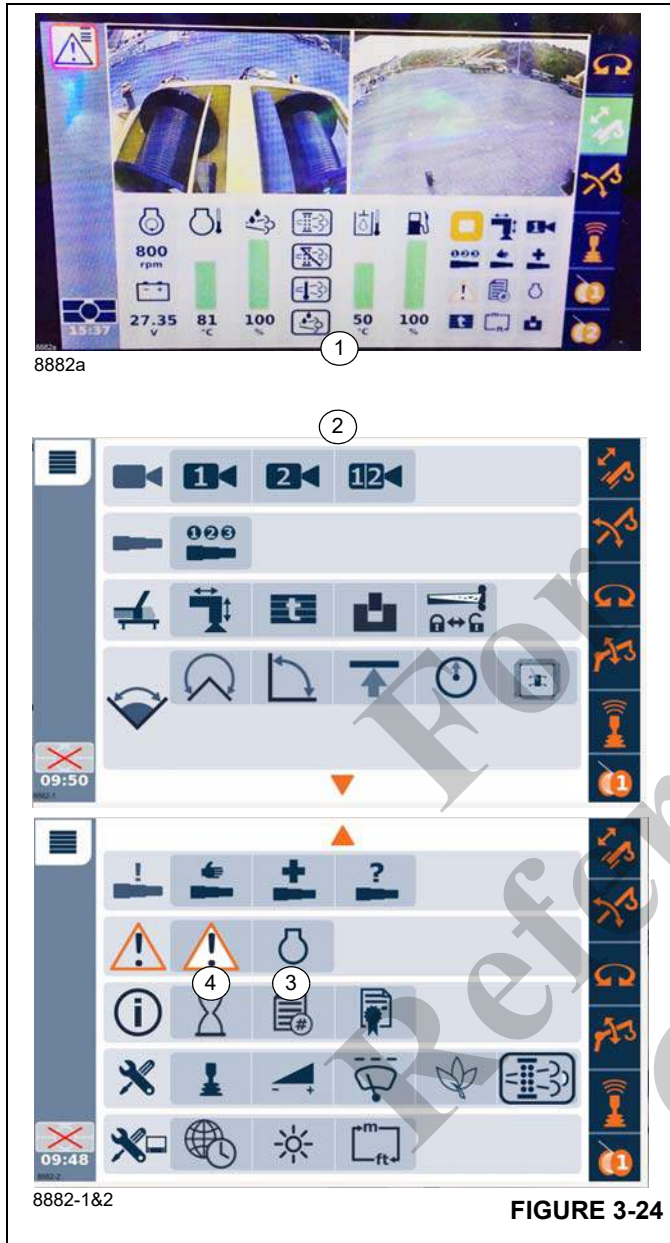

FIGURE 3-24
The start menu appears after switching on the ignition (1), (Figure 3-24).
appropriate sub menu based on the error being displayed. Select symbol (Figure 3-24) and confirm